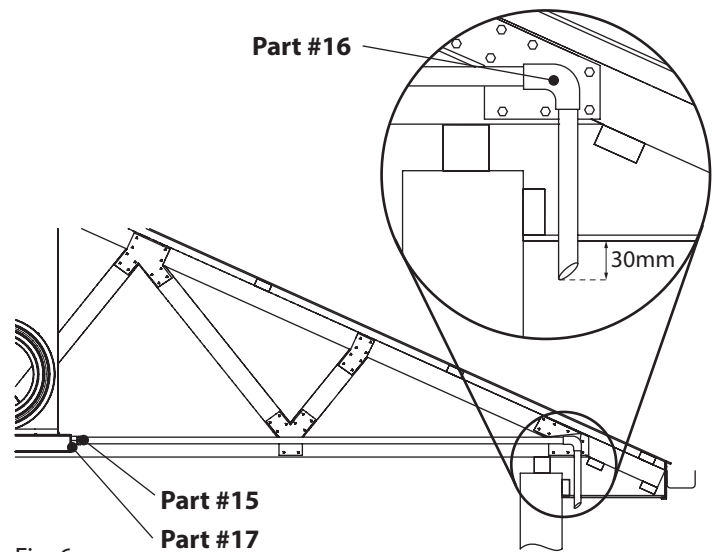

Fig. 6
- Purchase a length of 25mm Rigid PVC pipe (purchased from any plumbing suppliers) and assemble drain pipe as per Fig. 6.